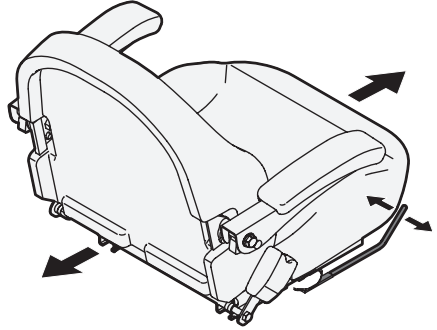

Figure 22
- Release the adjustment lever. Ensure seat is locked into position before operation (Figure 22).